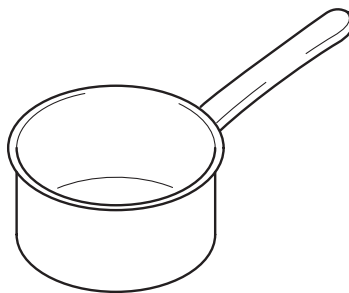

Fig. 2
- 4 Fig. 2 shows a cooking pan made entirely from metal.